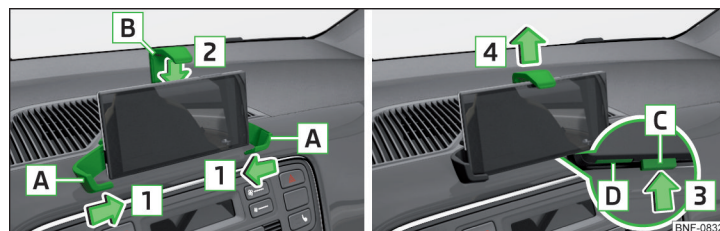

Fig. 79 Inserting phone / Removing phone
- Insert the phone between the arms **A** move them in the direction of arrows **1** and secure the phone by doing so » Fig. 79.
- Press The key **C** in direction of arrow **3** the arm **B** moves into the starting position in the direction of arrow **4** » Fig. 79.